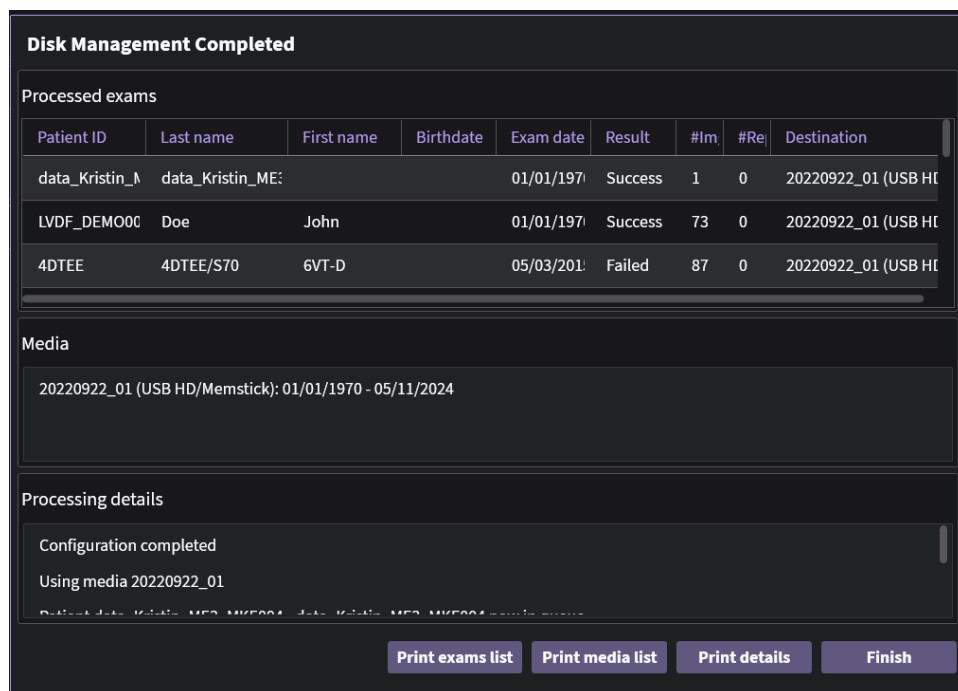

Figure 5-57 The Disk management completed window
5. When all the files are copied, the **Disk management completed** window is displayed (Figure 5-57 The Disk management completed window on page 178), showing the list of processed examinations, the media used and a detailed log.